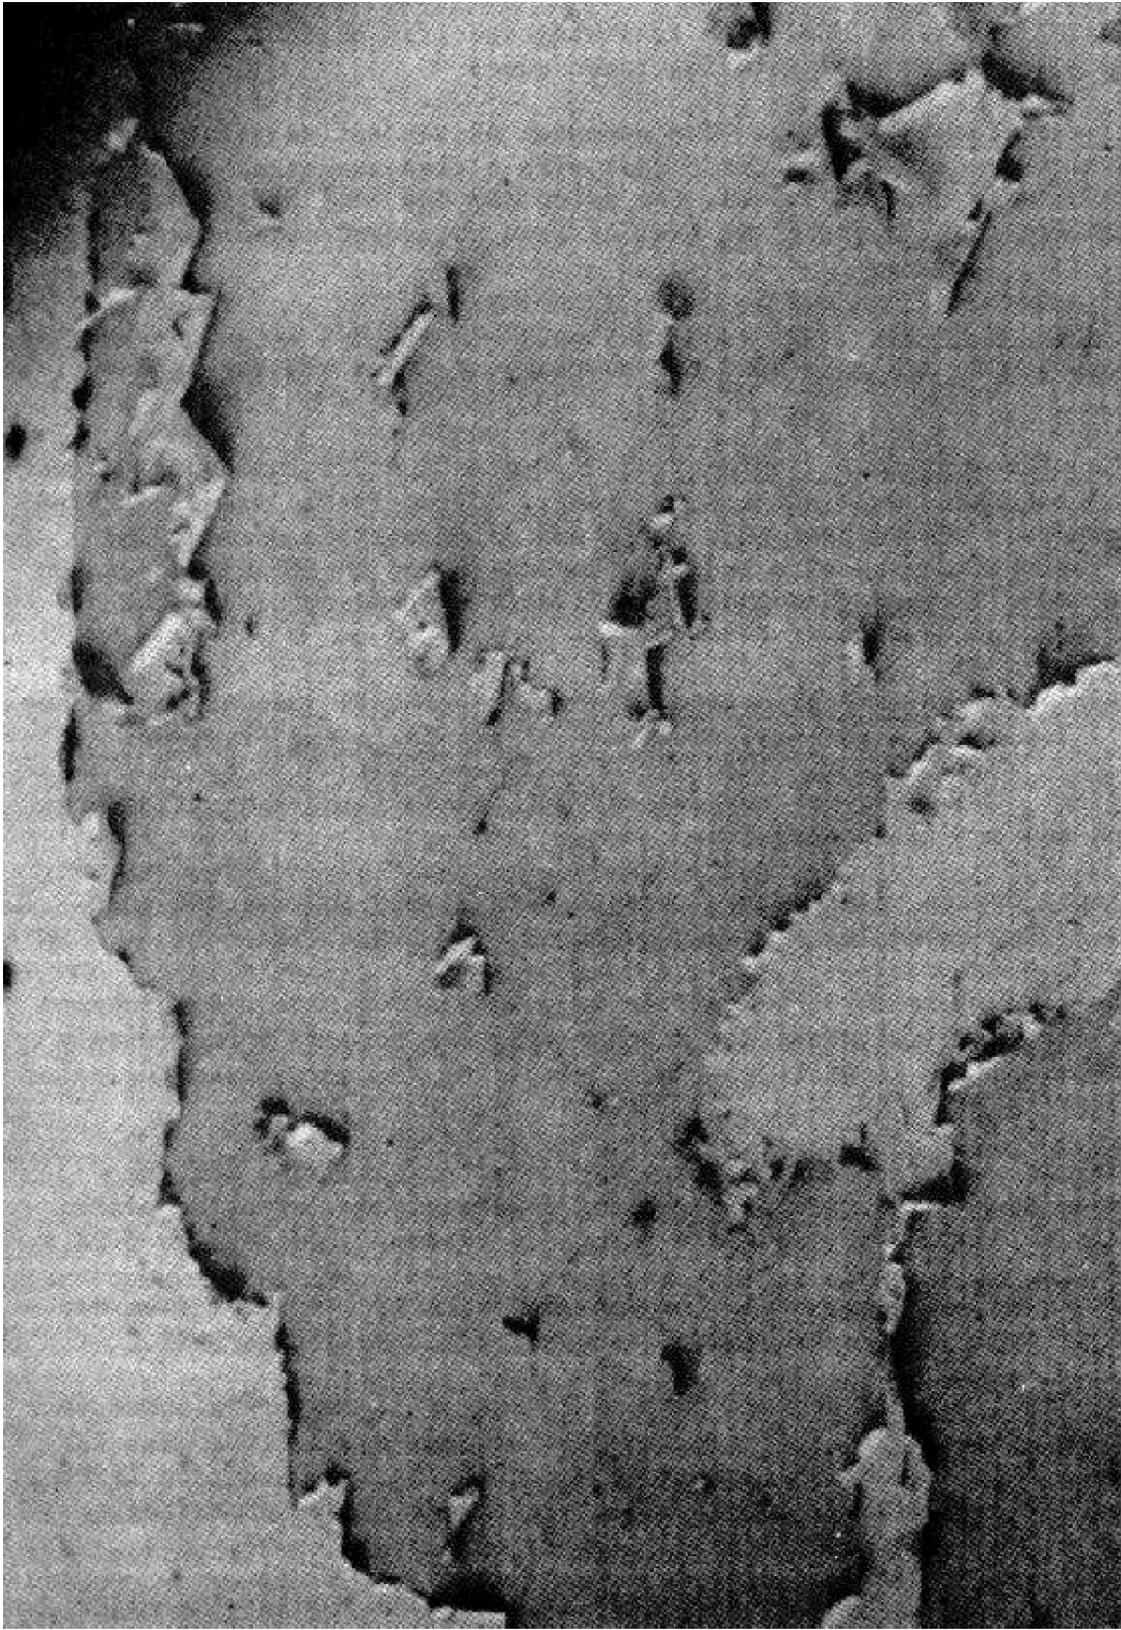

FIGURE 5-26
d. Intercoat Peeling: The loss of adhesion caused by the use of incompatible paints may not be obvious until after a period of time has elapsed. Then, the stresses in the hardening film will cause the two coatings to separate and the topcoat will then flake and peel (See Figure 5-26.)